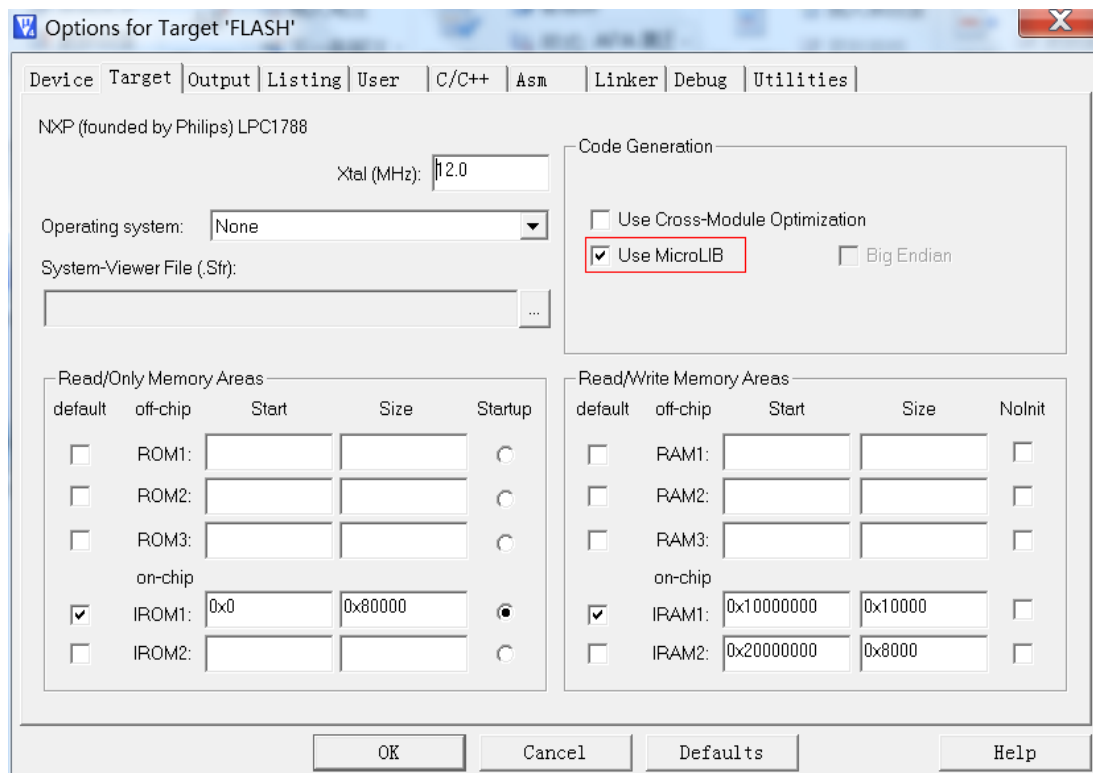

Figure 3-23
(2) Hook Use MicroLIB in engineering configuration, refer to figure 3-23: